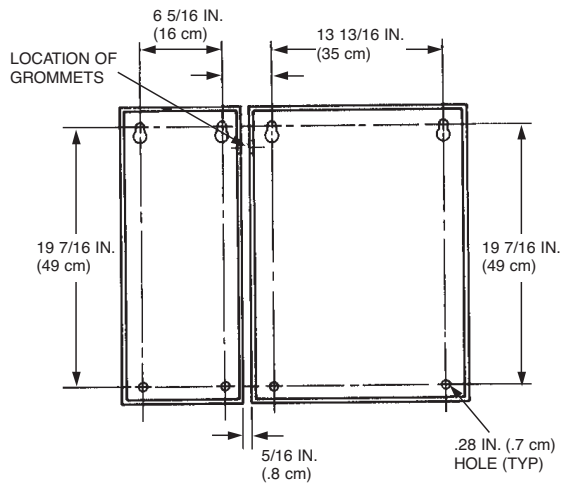

FIGURE 3
- d. When mounting a 6-gallon manifolded system (or a 6-gallon individual piped system) it is critical that each mounting box is located as shown in Figure 3. There must be a 5/16 in. space between each box. Less than 5/16 in. will cause interference with the covers, and more than a 5/16 in. will cause a gap between the two hose grommets which will expose the hose to possible tampering or damage.